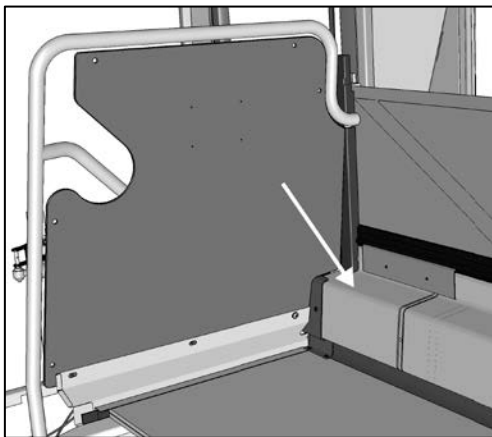

Figure 1
1. On the vehicle, right side, first row of seats. Remove the first short section of the trim panel between floor and wall. (Fig. 1 & 2)